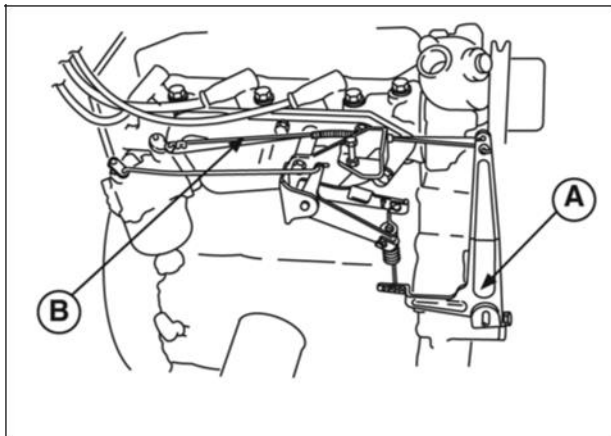

Figure 22
17. Install governor lever (A, Figure 22) on to governor shaft. Do not tighten governor nut at this time.
18. Install governor link with spring (B).